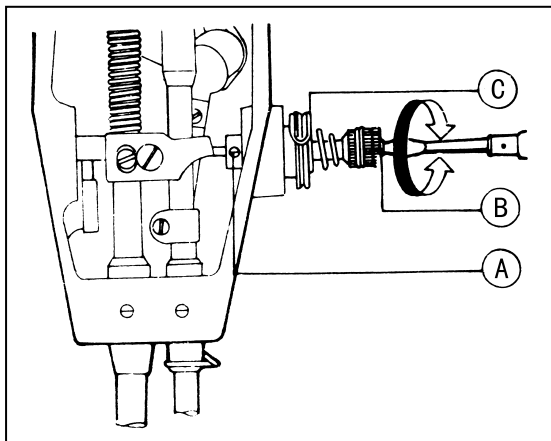

Fig. 13
13. ADJUST THREAD TAKE-UP SPRING (Fig.13,14)